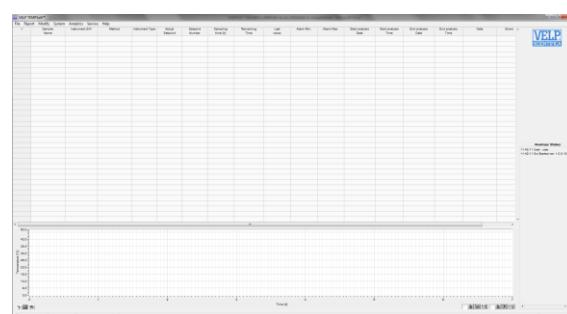

Fig. 3
6. The main window will appear (*Fig. 3*).